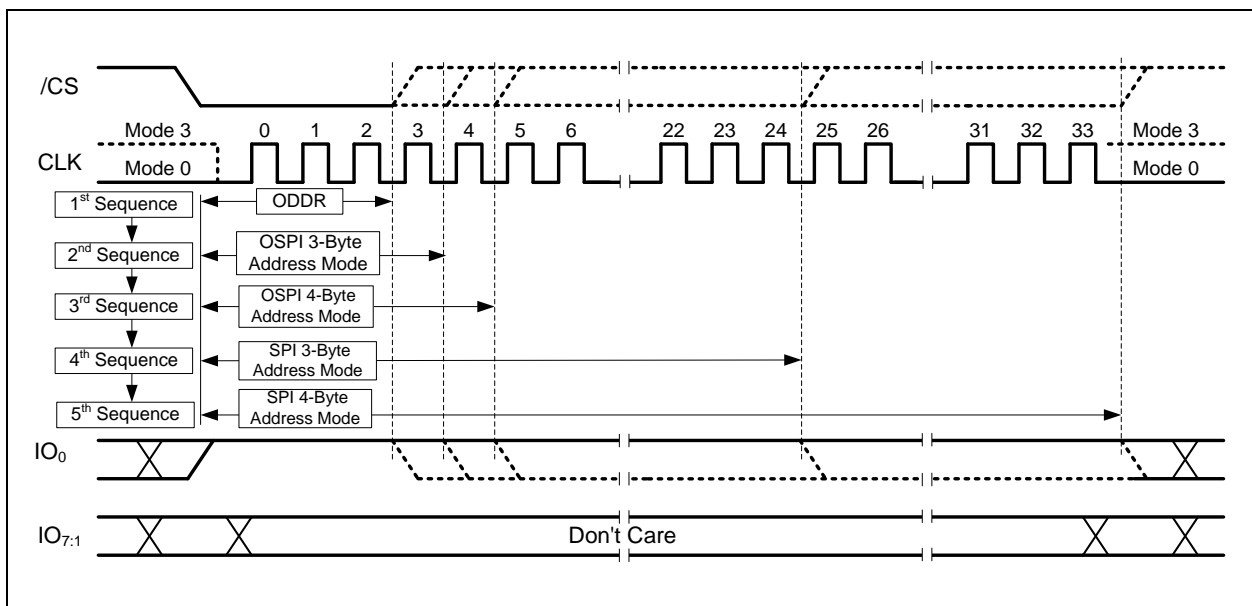

Figure 4-4. Exit XIP Sequence
The above sequence is illustrated in Figure 4-4 below. This sequence will only exit indeterminate XIP mode by setting XMb to '1'. It does not reset the device or interrupt an ongoing internal Program/Erase operation. After terminating XIP mode, the host controller should regain control of the interface and perform the required operations either by doing further interface recovery, power loss recovery, software reset sequence or hardware reset for full device recovery.
- The first step is to execute the Exit XIP Recovery Sequence as detailed on Section 6.5.4 and Figure 4-4 (on the previous section). This is a five step method in exiting XIP mode by driving IO0 to '1' until XIP Mode Bit (XMB) is passed on each of the supported XIP IO Mode Configurations (ODDR, OSPI with 3-Byte or 4-Byte Address, and SPI with 3-Byte or 4-Byte Address).
- The first step is to execute the Exit XIP Recovery Sequence as detailed in Section 6.5.4 and Figure 4-4 (on the previous section). This is a five step method used to exit XIP mode by driving IO0 to '1' until XIP Mode Bit (XMB) is passed on each of the supported XIP IO Mode Configurations (ODDR, OSPI with 3-Byte or 4-Byte Address, and SPI with 3-Byte or 4-Byte Address).